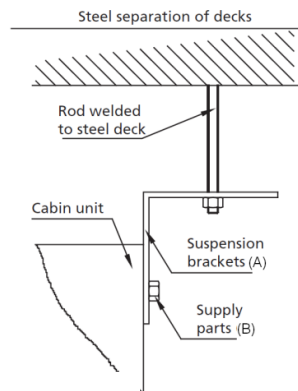

Figure 2
The cabin units are available for ceiling suspension (figure 2). Units are delivered with four suspension brackets (A) incl. supply parts (B) for fastening to the ceiling and sides of the units.